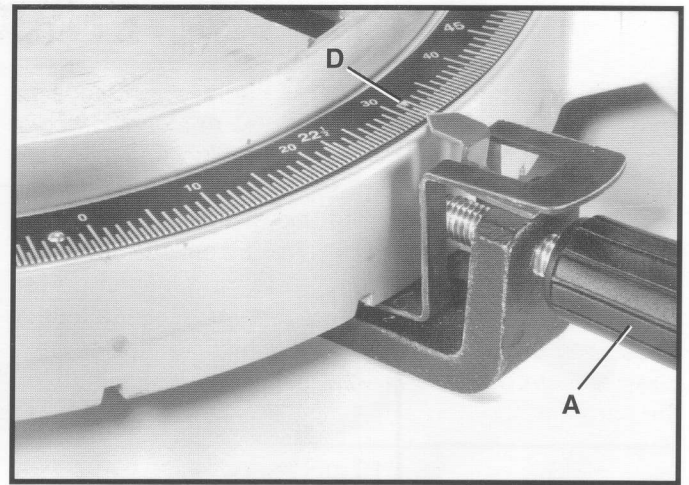

Fig. 16
In addition, a triangle indicator (D) Fig. 16, is provided on the miter scale at the 31-5/8 right and left miter positions for cutting crown moulding. Refer to the **"CUTTING CROWN MOULDING"** section of this manual.
IMPORTANT: ALWAYS TIGHTEN LOCK HANDLE (A) FIG. 16, BEFORE CUTTING.